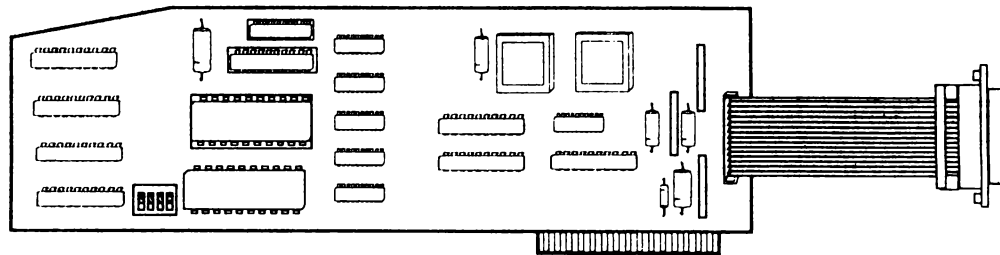

FIGURE 6
- IPL.7 High Speed SCSI Card (Figure 6)
□ **HIGH-SPEED SCSI CARD (Figure 6)**